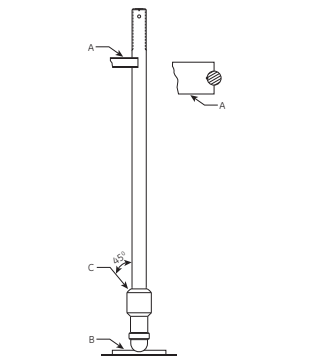

Figure 22: Spindle Check Stand
It is important that the spindle be kept very straight in order to transmit the spring force to the disc without lateral binding. Overgagging is one of the common causes of bent spindles. A method to check the essential working surfaces of the spindle is illustrated in Figure 22. This may be performed either with or without the disc collar and lift stop on the spindle.
Using Figure 22 as a reference, clamp a V block (A) made of wood, fiber or other suitable material onto the platform railing. Imbed the ball end of the spindle in a piece of soft wood (B) and place the top of the spindle, below the threads, in the V block (A). Clamp a dial indicator onto the railing and locate at point (C). The total indicator reading should not exceed .007" (0.18 mm) when the spindle is rotated. If it does, the spindle must be straightened prior to reuse. To straighten the spindle, place the unthreaded portion of the small and large end in padded V blocks, with the point of maximum indicator readout upward, and then apply a downward force with a padded press or jack as required, until the spindle is within the specifications.